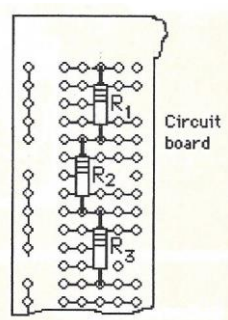

Figure 1
2. Connect the resistors in series as shown in Fig. 5-1 (a) in the text book, (see Fig. 1). Do not connect any battery or power supply